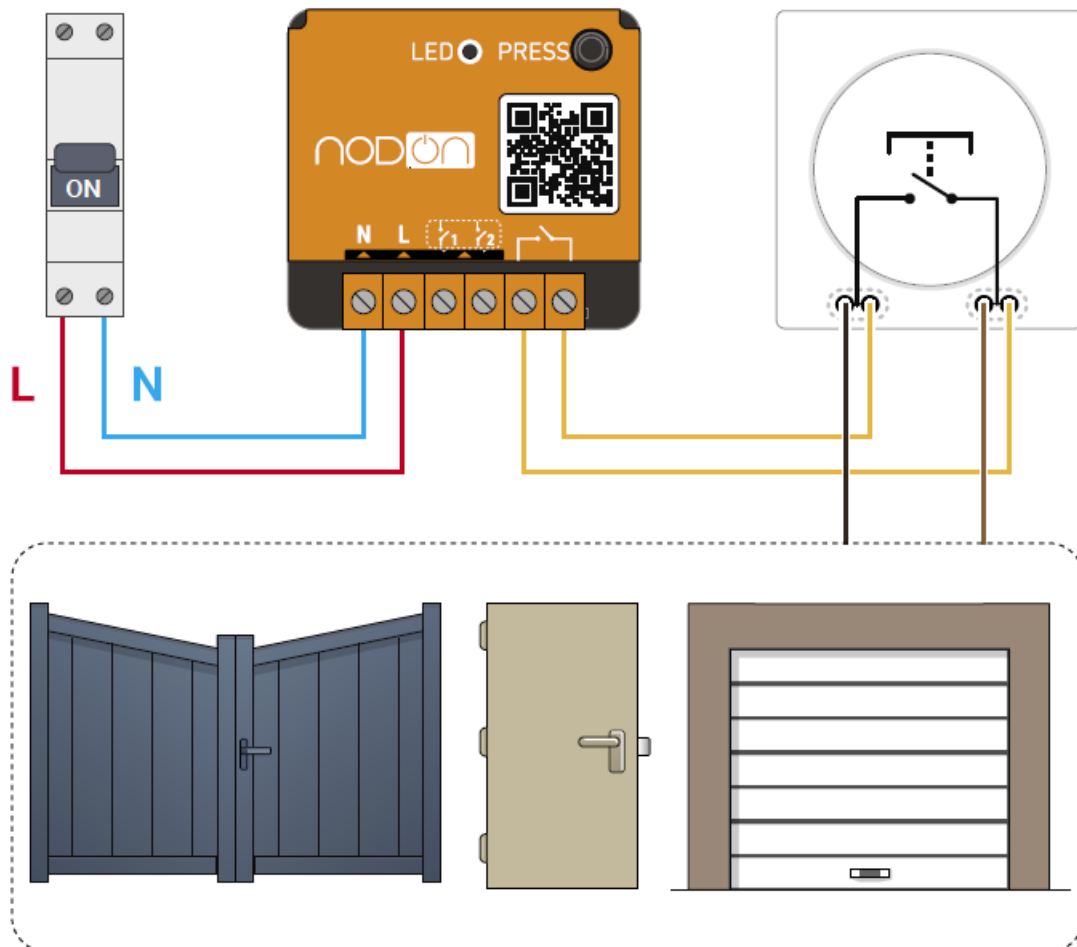

Figure 1
3. Wire the Multifunction Relay Switch, in parallel to the push-button following the diagram in figure 1.